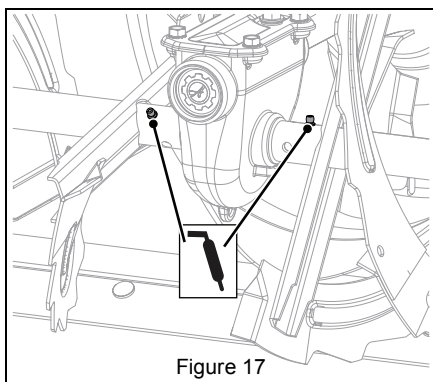

Figure 17
2. Apply grease at the grease zerks. See Figure 17.